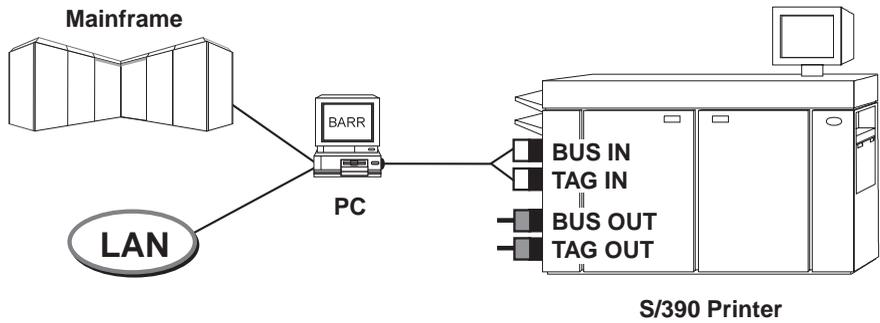

Figure 1-6. BARR/RJE with PRINT370 routes data from the mainframe and the LAN to S/390 channel printers.
- BARR/RJE with PRINT370 connects your printers to the mainframe and the LAN (see Figure 1-6). (For more information about the type of mainframe RJE systems supported, see your *BARR/RJE* manual.)